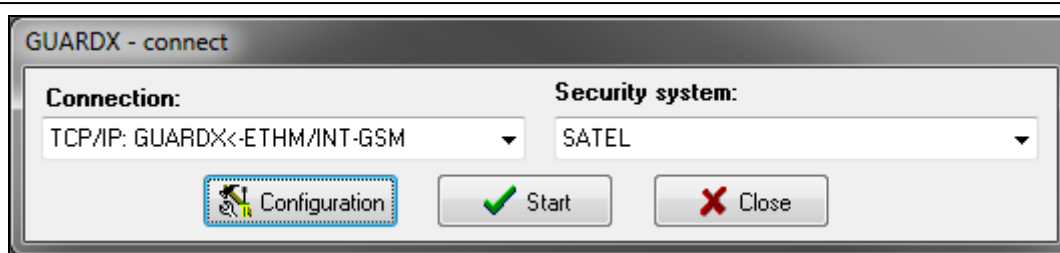

Fig. 20. GUARDX program: startup window.
To configure the settings related to communication with the alarm system, click on the "Configuration" button in the startup window of GUARDX program (Fig. 20).
1. In the startup window (Fig. 20), "Connection" field, select "TCP/IP: GUARDX<-ETHM/INT-GSM" and then click the "Start" button. This will display a window with information that the program is waiting for connection.
1. In the startup window (Fig. 20), “Connection” field, select “TCP/IP: SATEL server” and then click the “Start” button.